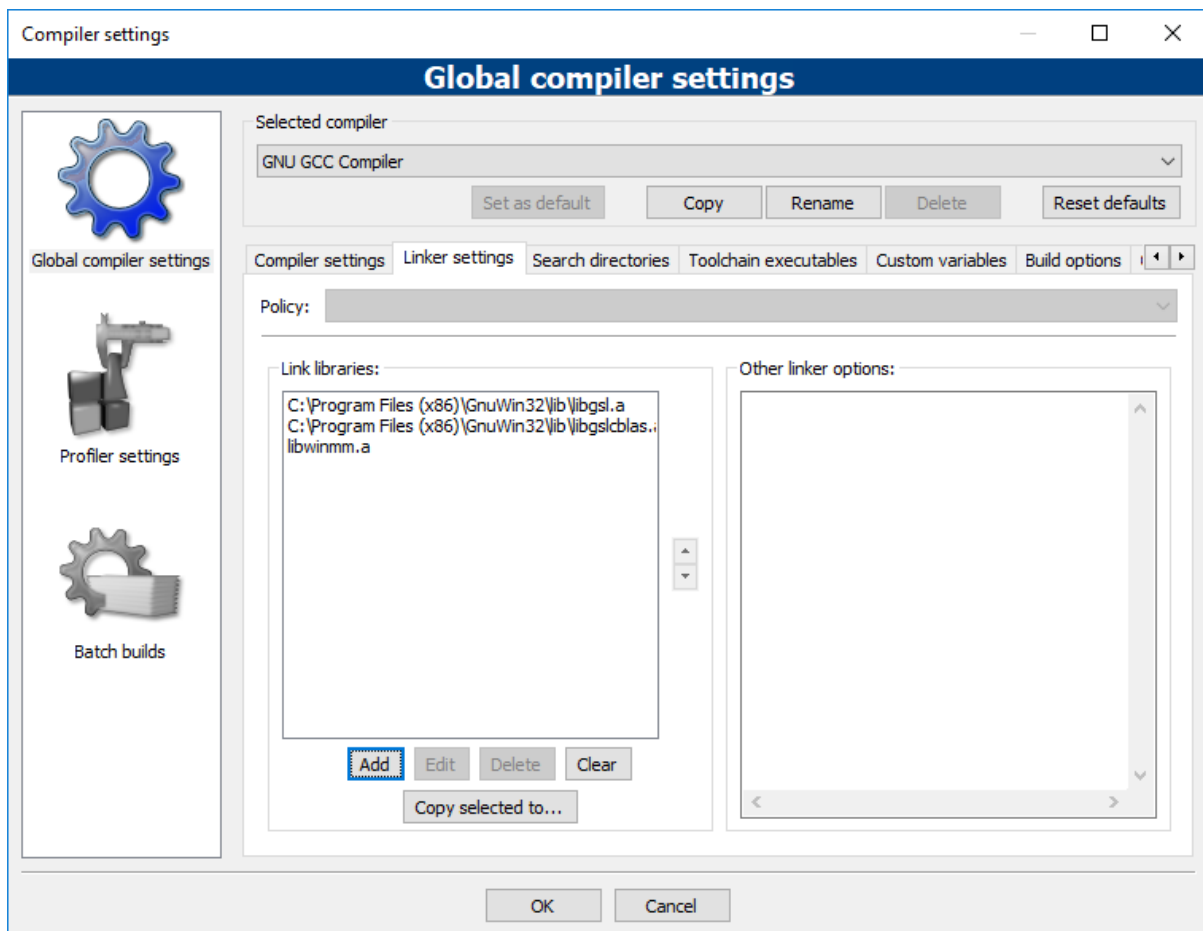

Figure 2: Additional library added to CodeBlocks project
- The link libraries box should now have an additional entry of 'libwinmm.a' as shown in figure 2